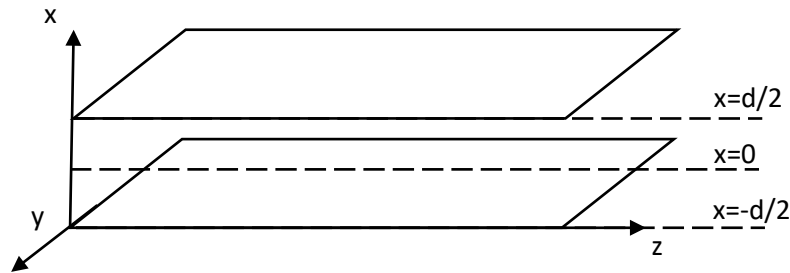

Figure 5: Revisiting the geometry of the slab guide.
Consider again the TE mode with the wave propagating in the z direction and the guide confined between two planes in the x direction and unconfined in the y direction (see figure 5)
We know that the propagation vector component in the x direction is real within the guide and imaginary outside (remember the evanescent field?) so we could write the field within the various regions shown in figure 5 as
*Figure 6. The electric field distribution for the  $m=3$  mode in a 4-micron thick waveguide. Waveguide index is 1.5095, substrate index is 1.4711 and the cover index is 1.0. Free space light wavelength is 633 nm. The center of the guide ( $x=0$ , see figure 5) is at position zero and the field within the guide is shown as chained red. The evanescent fields in the air and the substrate are shown in blue and green, respectively. Note that the penetration into the substrate is much greater than into the air because the substrate is closer in index to that of the guide.*